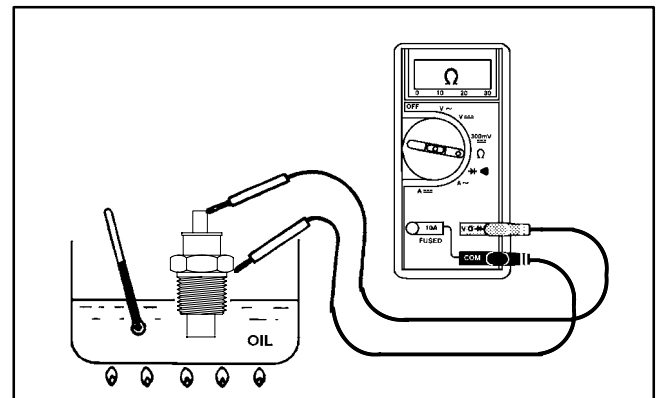

Figure 33
4. Put fan switch in a container of oil with a thermometer and slowly heat the oil (Fig. 33).